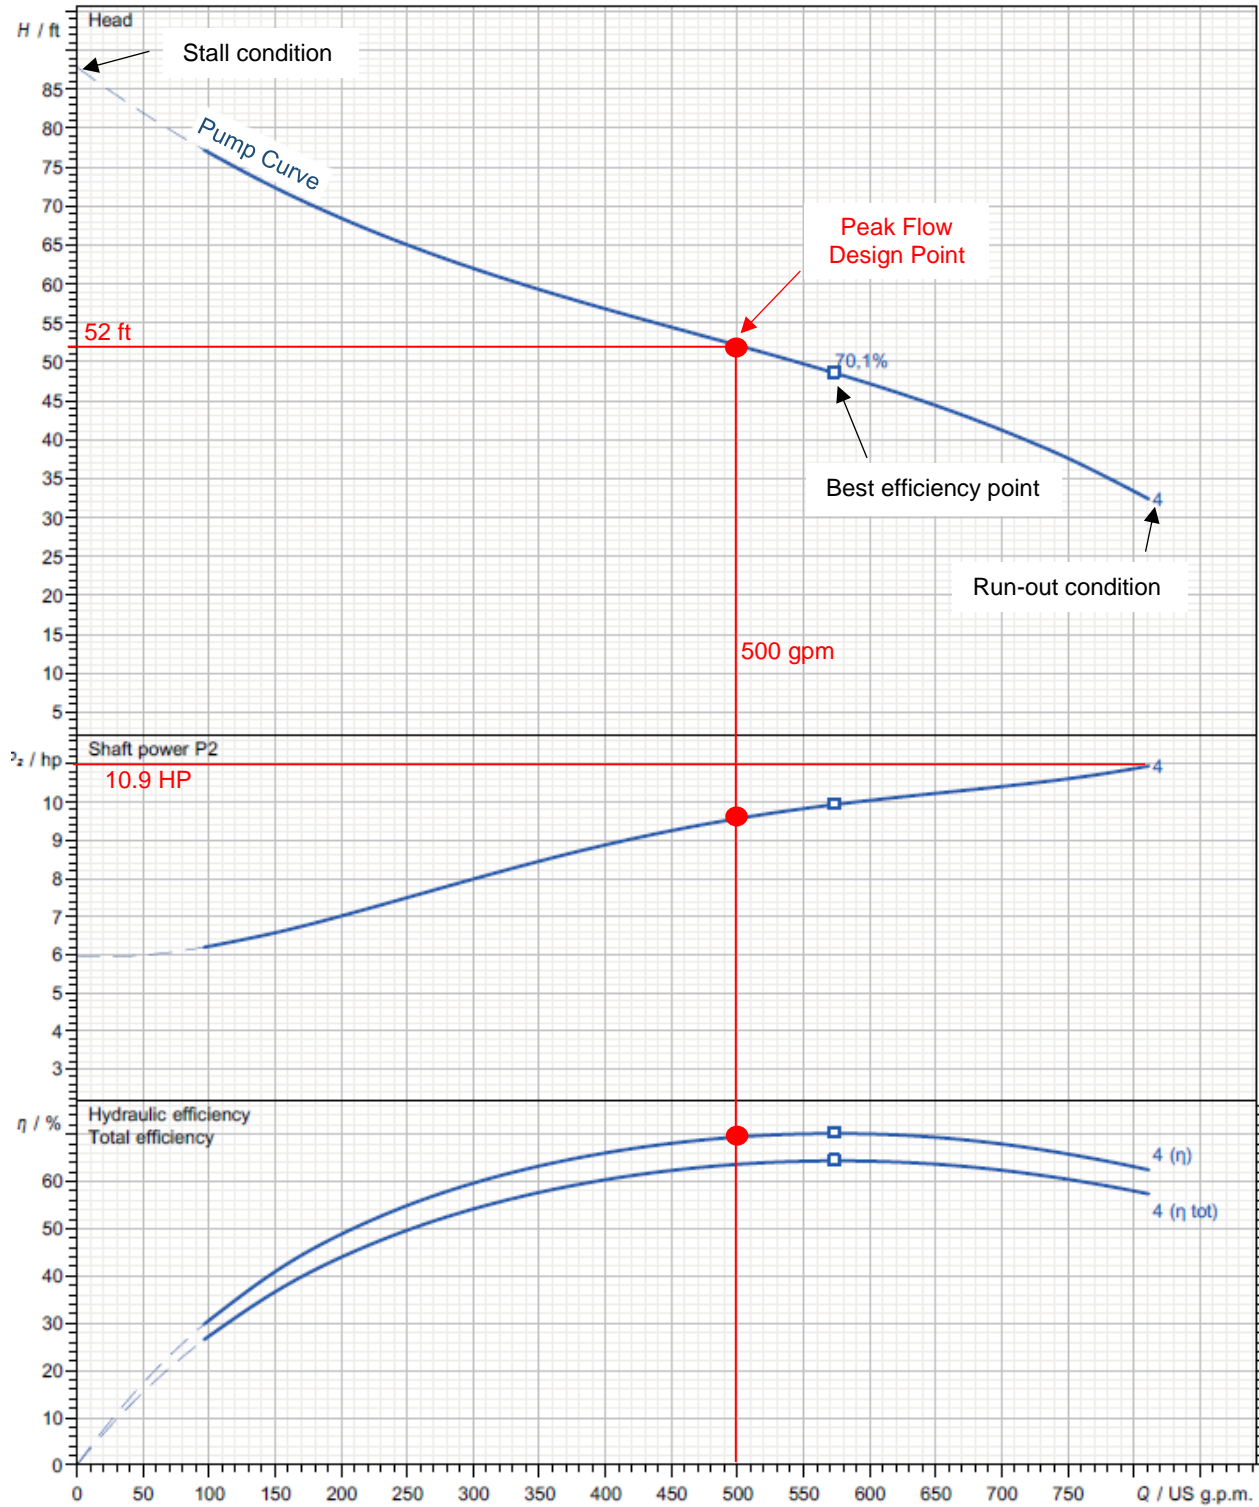

Figure 23: Manufacturer's pump curve for Example 7, with design conditions in red.
Beverly obtained the manufacturer pump curve, as shown in Figure 23. She plotted the the pump curve and the system curves together in Figure 24. Based on the intersections of the curves, the normal operating range would be 500 to 615 gpm, with the best efficiency point (BEP) in that range at 570 gpm. She added notes to the curves showing the range and BEP for clarity.
Beverly reviewed the shaft power (HP) curve in the center chart of Figure 23. She identified the greatest power is 10.9 HP at the far right of the curve. To determine the motor HP, she multiplied this line shaft HP by the service factor, and divided by a typical motor efficiency of around 90%: